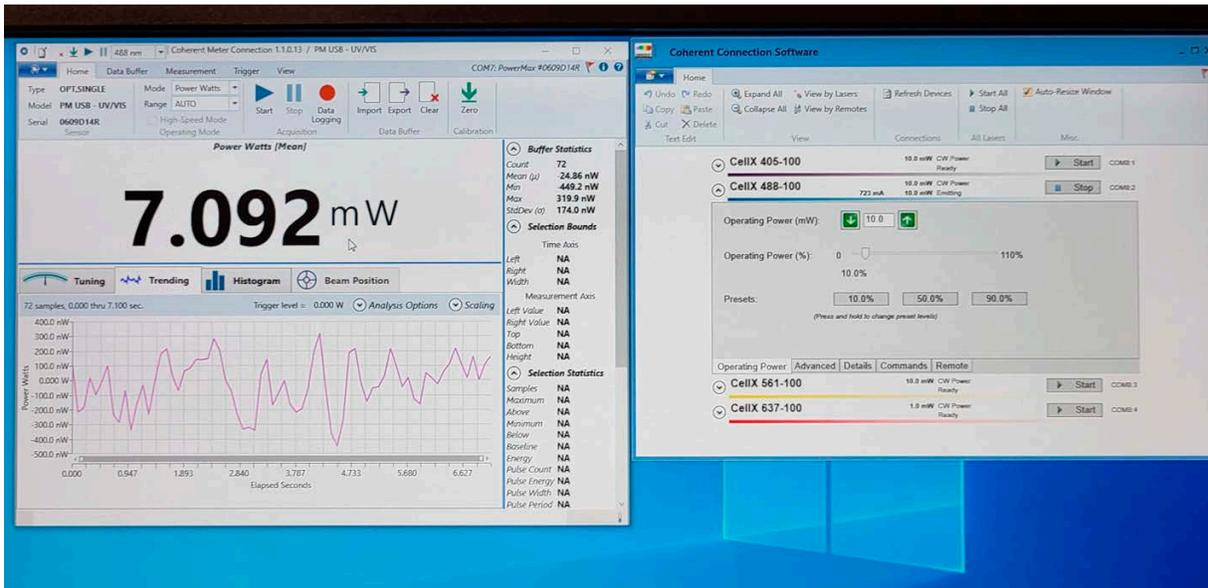

Figure 8-21. Example Power Sensor and Laser Operation Software Screens
6. Carefully adjust the knobs to get the optimized output power from the fiber. A 5/64-in hex wrench or driver is recommended for fine adjustment. There should be at least 6.5 to 8 mW of power shown on the meter when the power is optimized. The goal is to get the observed output power in the measurement software to be as high, or optimized as possible. Refer to the example in Figure 8-21.